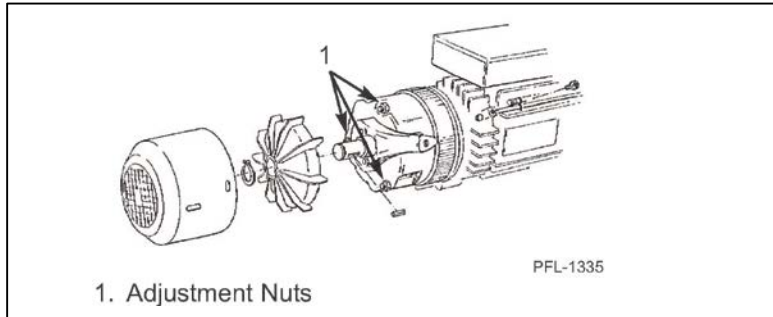

Figure 4
2. Tighten the three brake adjustment nuts lightly. **See Figure 4.**